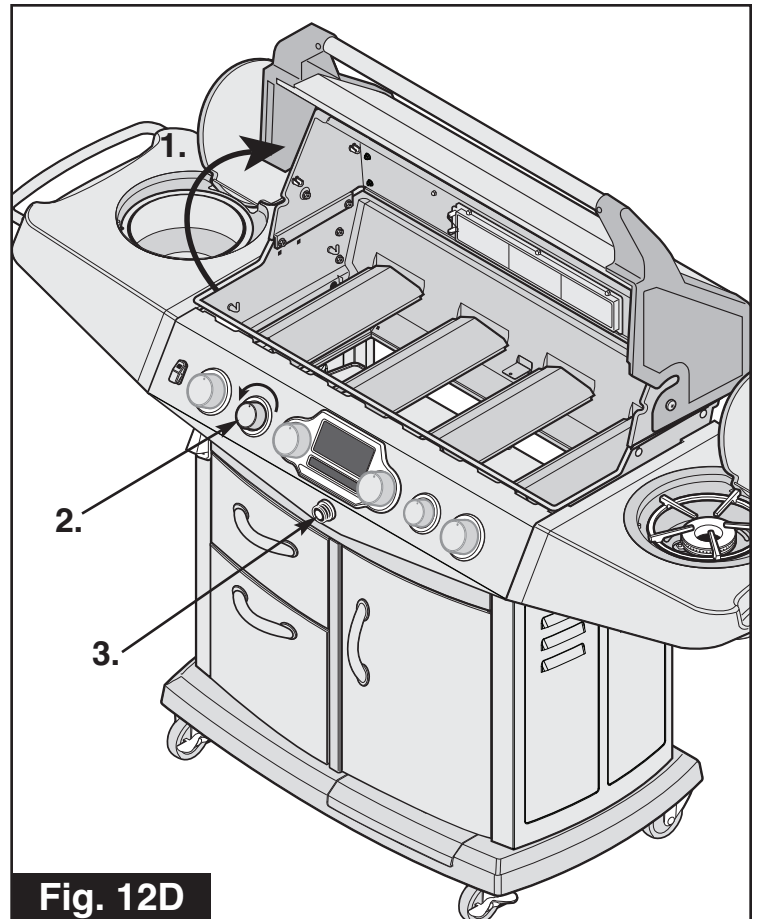

Fig. 12D
3. Depress ignitor. Repeat if necessary (see Figure 12D).